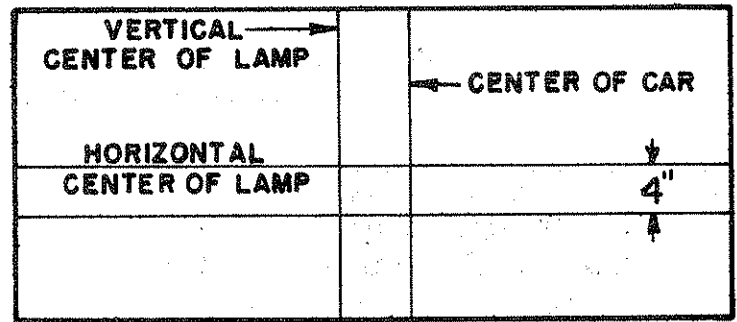

FIGURE 4
9. Measure distance from floor to center of Fog Light Heads. Spot or draw a horizontal line on door or wall at Fog Light Head center just determined. See Figure 4.
10. Then spot or draw a horizontal line on wall four inches (4") below horizontal line representing the Fog Light center. See Figure 4.
11. Spot vertical center of car on door or wall by sighting through rear window in line with radiator cap. See Figure 4.